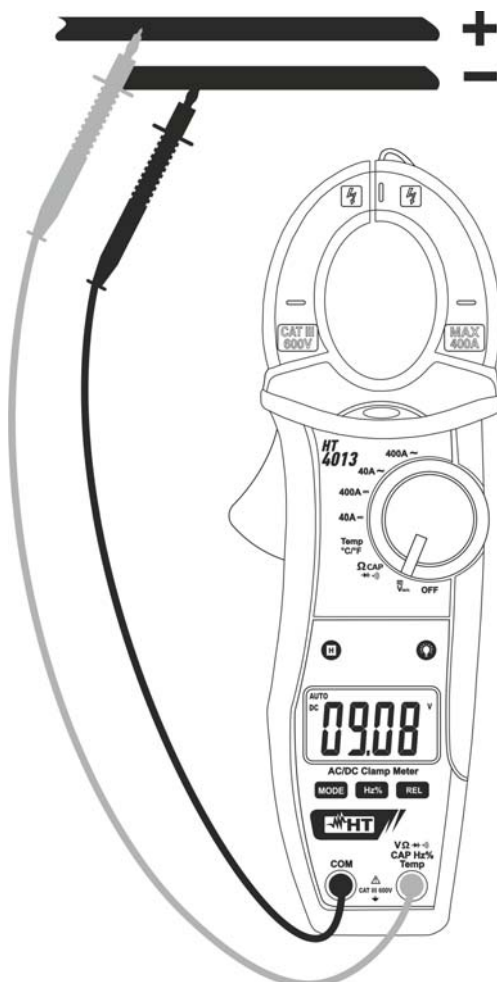

Fig. 3: Use of the clamp for DC voltage measurement
3. Position the test leads in the desired points of the circuit to be measured (see Fig. 3). The display shows the value of voltage.
5. When symbol "-" appears on the instrument's display, it means that voltage has the opposite direction with respect to the connection in Fig. 3